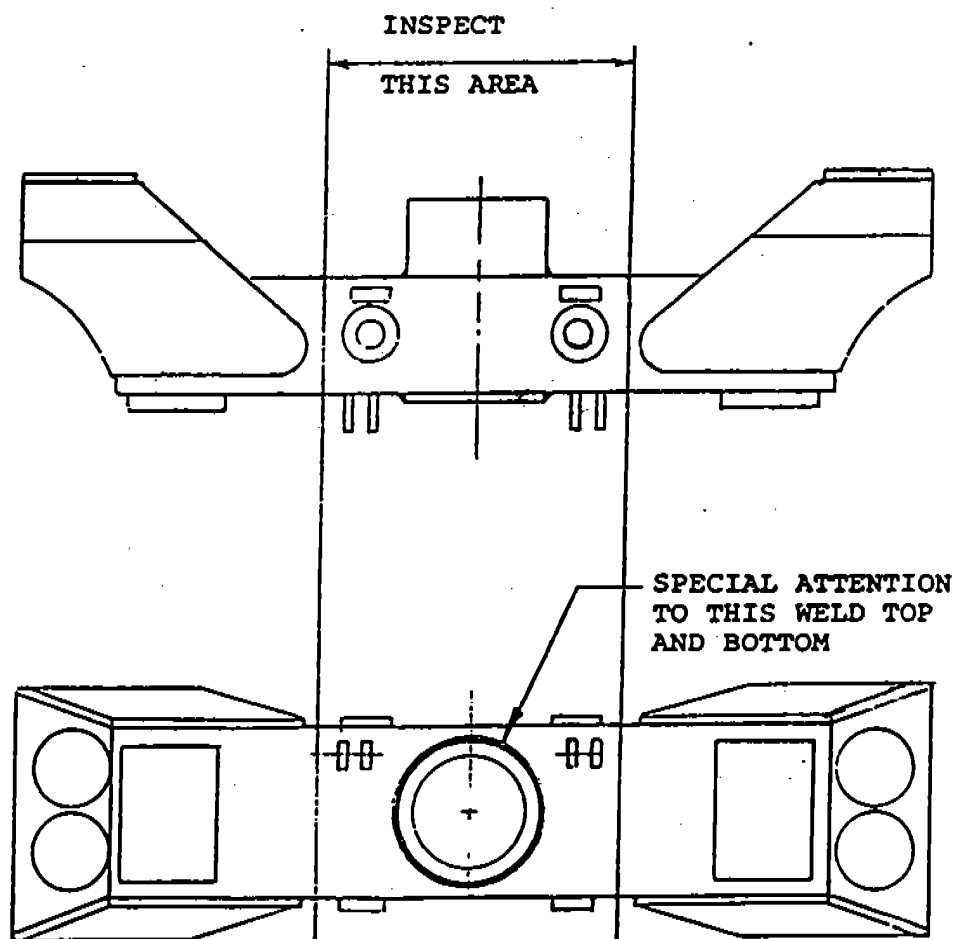

FIG. 2
3. *Driving sprocket larger than driven sprocket. Recommended travel for this arrangement is closed end forward (See figure 2). Because the maximum articulation and load occurs as the chain leaves the driven sprocket, the travel must be such that the link pivots on the pin at this point. To do this the chain must come onto the sprocket closed end forward.*
The axle housing must be subjected to a magnetic particle or dye penetrant inspection over the area shown in Fig. 2, with special attention given to the weld around the top and bottom of the central hub area.